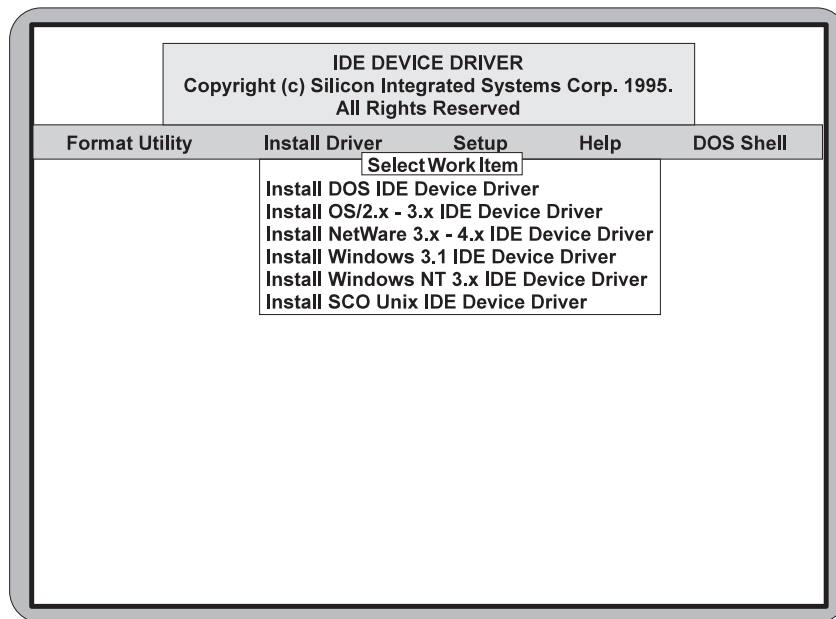

Figure 3-8 M4Li IDE Driver Screen
2. Select Install Driver. Choose the drivers for the operating systems and environments you will be using (Figure 3-8).